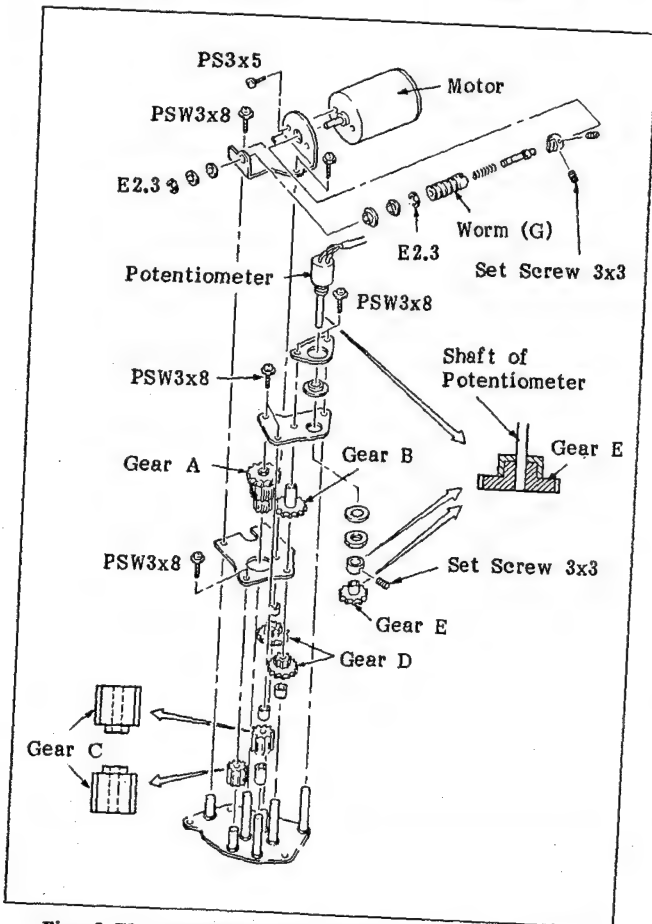

Fig. 6-72 Replacing the Components of the Gear Box Assembly
3. Replace the necessary components with new ones by referring to Figure 6-72.
Note: When the potentiometer or gear E has been replaced with a new one, attach it so that the head of the potentiometer shaft and the edge of gear E are on the same side, as shown in the detailed drawing of Figure 6-72.